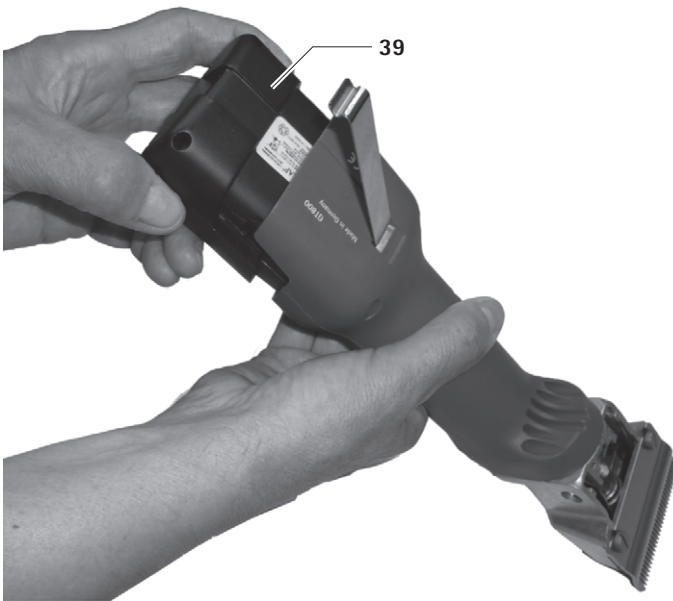

Fig. 2
- Remove the lithium ion battery **39**, and push the charged replacement lithium ion battery GT801 into the battery-operated clipping machine **g**, see Fig. 2.